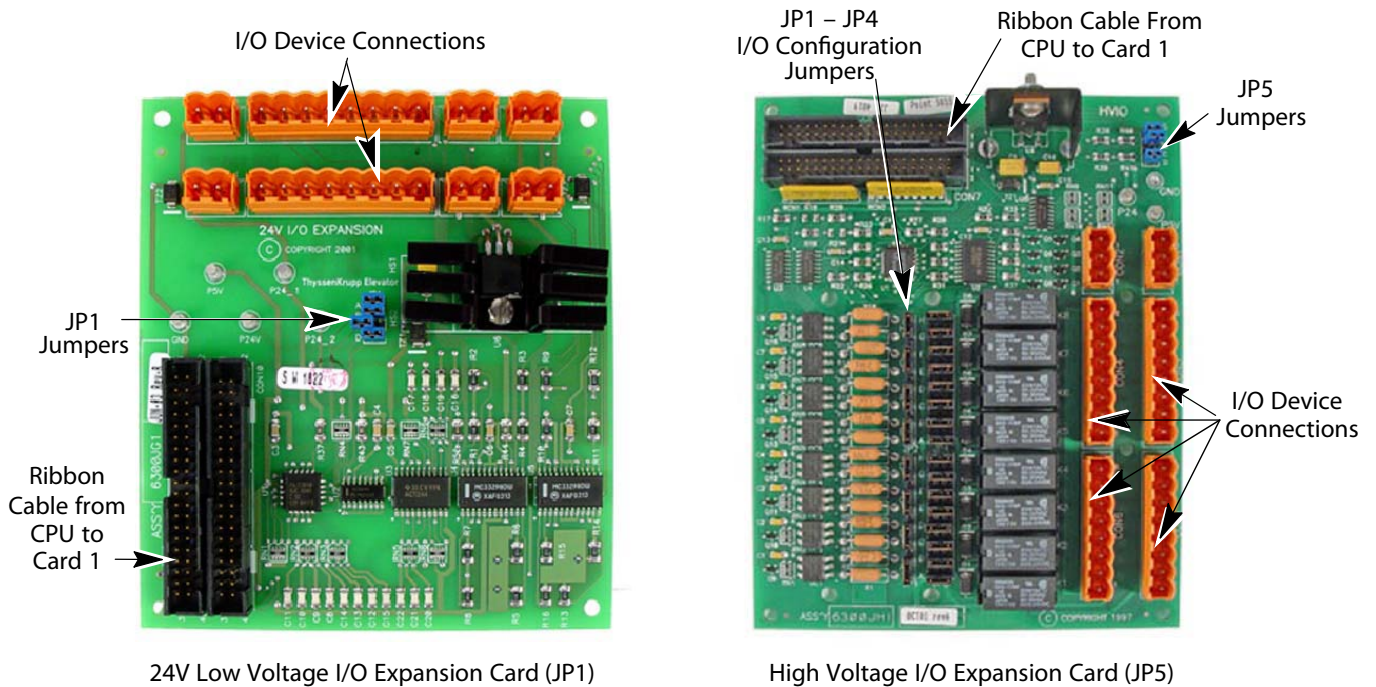

Figure 18 - I/O Expansion Card Jumper Verification
1. If I/O expansion cards are present, configure their addresses using either JP1 (low voltage) or JP5 (high voltage) jumpers. See Table 4 and Figure 18 on page 32 for details.